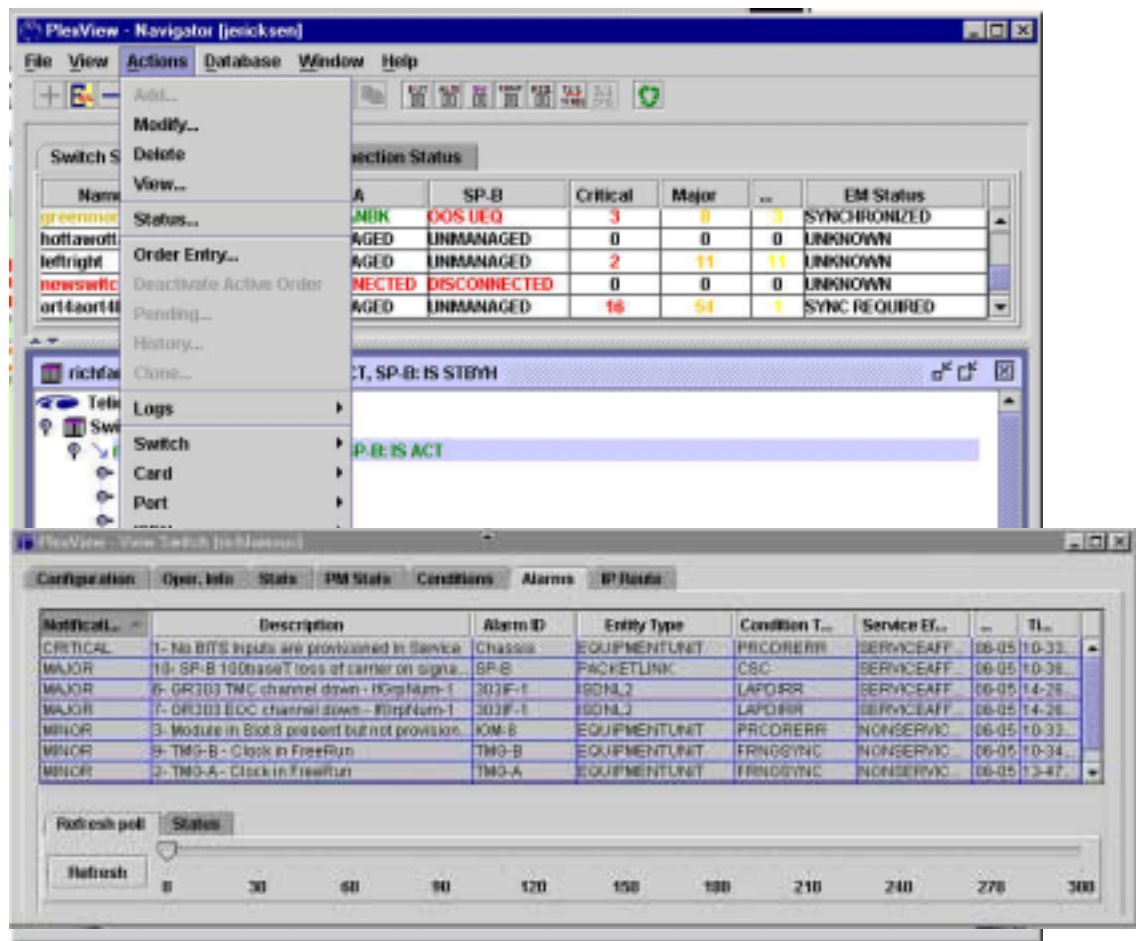

Figure 1. Retrieving Alarms
6. In the toolbar, select *Actions*, then *View* and then *Alarms*. Refer to Figure 1.